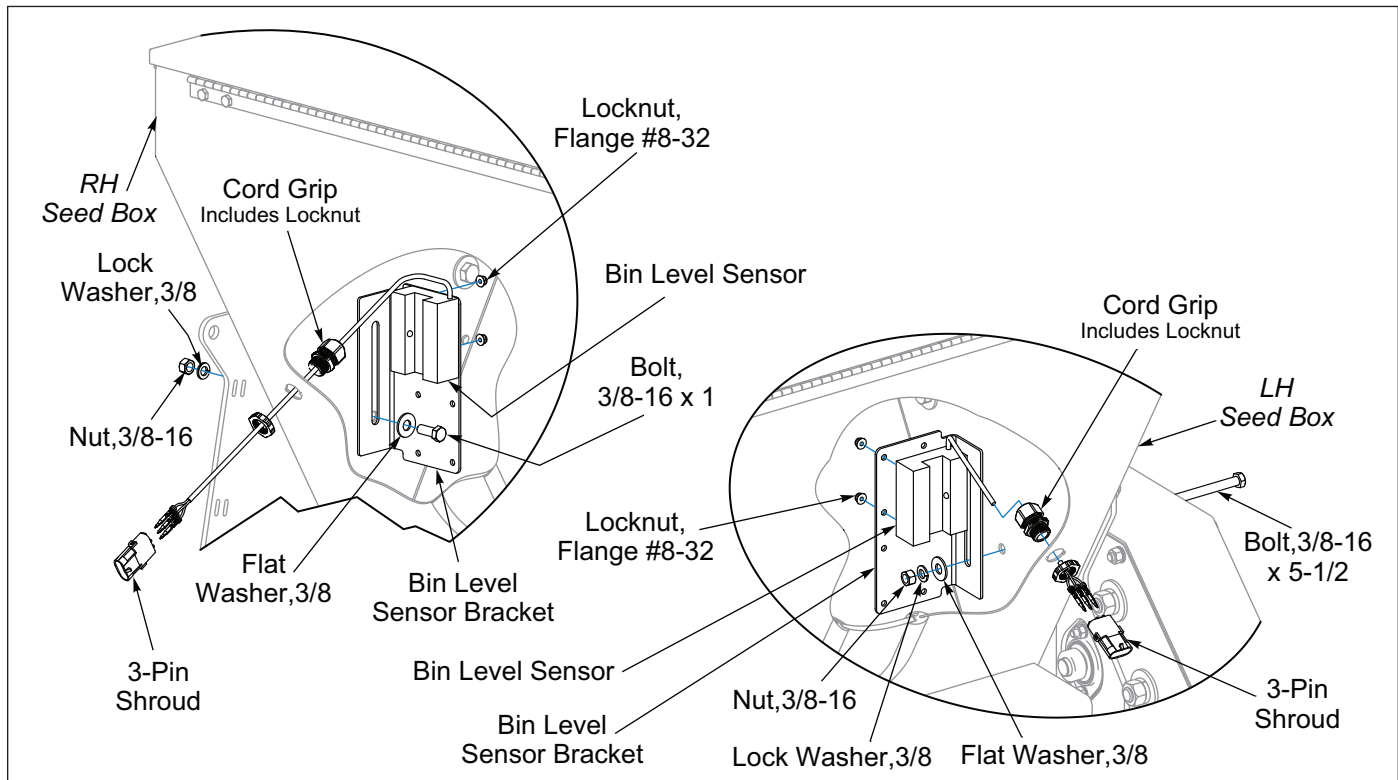

Figure 2-36: Brillion Elite Mini Monitor - Bin Level Sensor
7. On the inside at either end of the Seed Box, install a Bin Level Sensor Bracket with the Seed Box Mounting 3/8-16 Hardware. **See Figure 2-36.** Determine the desired level for the alarm to be indicated on the Brillion Elite Mini Monitor and assemble the Bin Level Sensors to Bin Level Sensor Brackets with sensor provided hardware and #8-32 Flange Locknuts. If more adjustment is needed, the Bin Level Sensor Brackets can also be raised or lowered to the desired seed level. Install Cord Grips from the inside of the Seed Box out